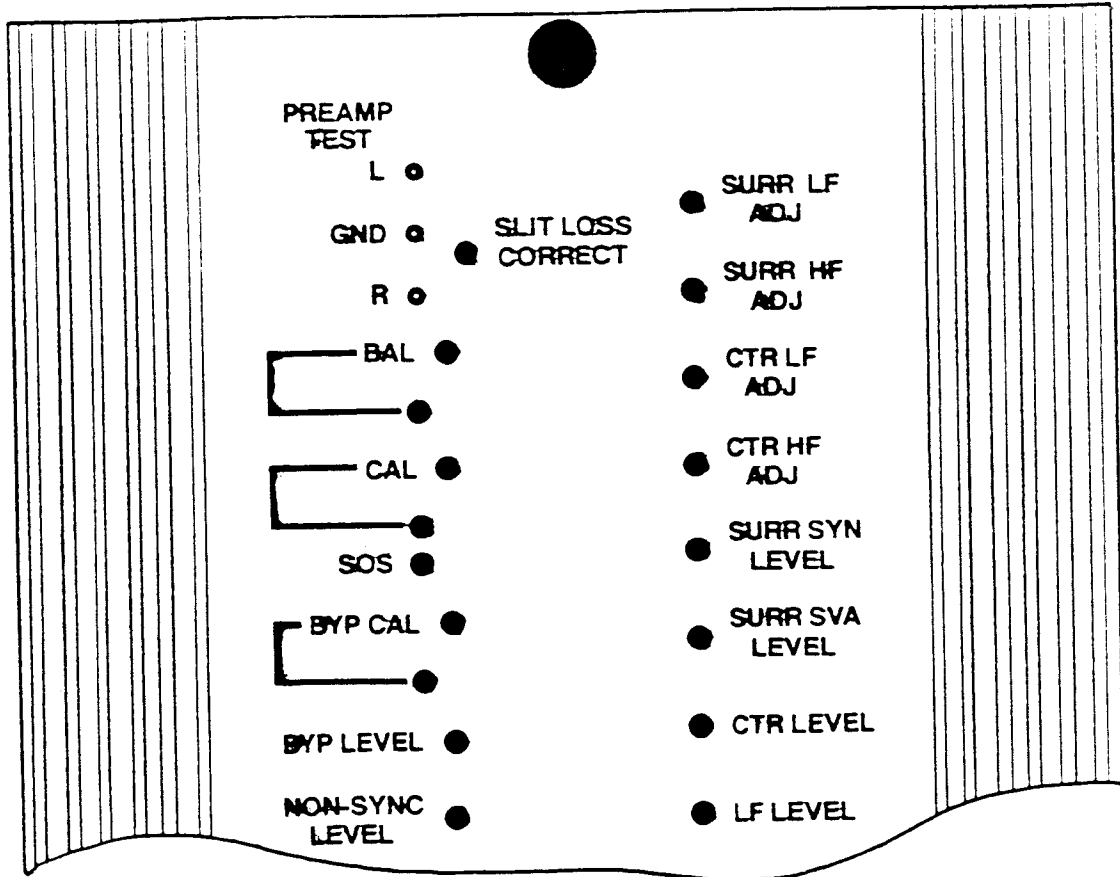

Figure 2
3.2.1 Step 1: Loosen the thumbscrew on the top of the KT-1000 and slide the half-panel up to view the trim controls and their indicators (refer to figure 2)